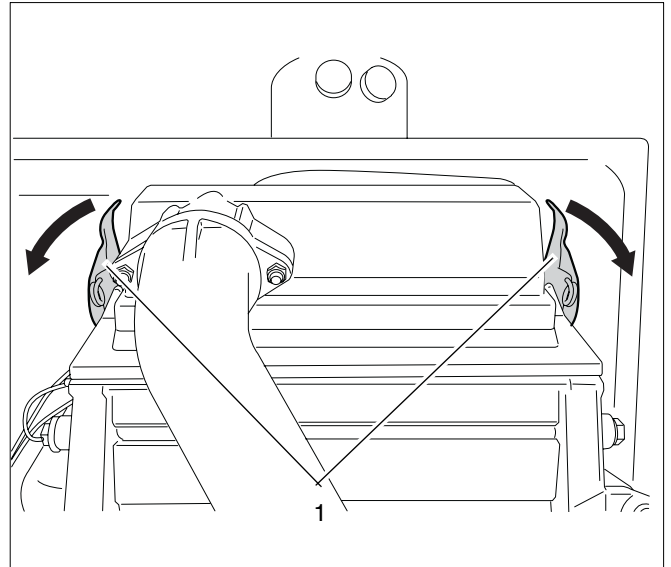

Fig. 108 Loosening the retaining clips
- Pull both retaining clips (see fig. 108, pos. 1) on the burner cover to open them and remove the burner cover with the fan unit and the gas control valve.